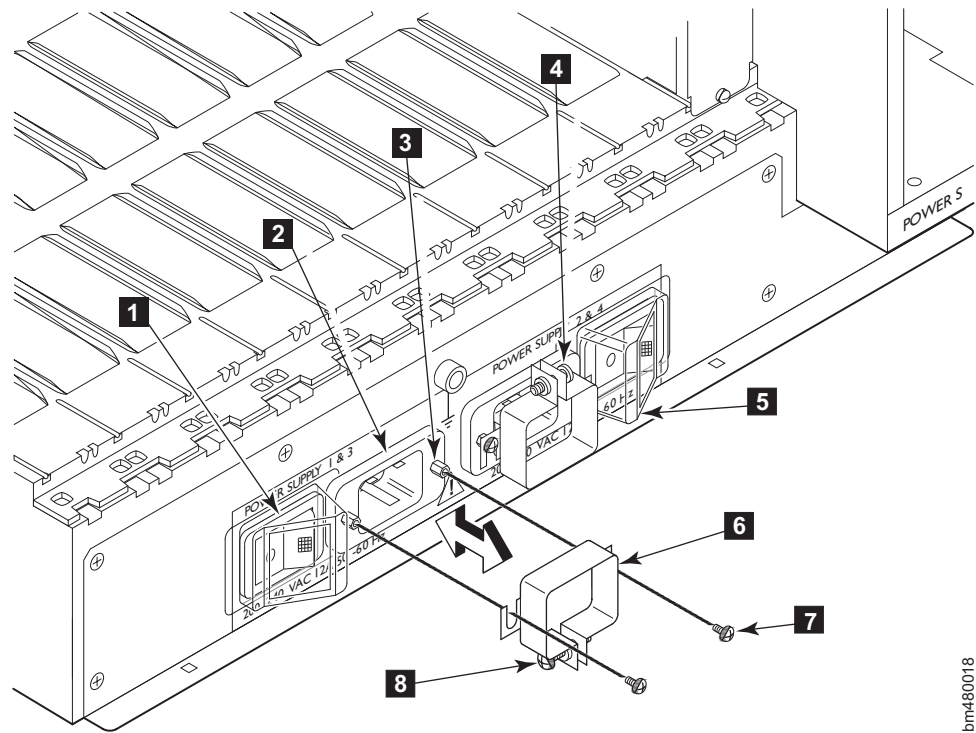

Figure 17. AC panel and power cord retainers
- Verify that the ac switch covers are installed over the ac switches. These clear plastic covers fit over the ac switches with their edges tucked underneath the outlet covers. They prevent the ac switches from being powered on or off accidentally (see **1** and **5** in Figure 17).
- Connect the ac power cord retainers **6** to the chassis: orient a retainer against the ac panel as shown in Figure 17, place the retainer tabs under the two jack screws **3** on either side of the power receptacle, and tighten the screws **7**. Repeat for the other retainer (note that the power cord retainers are oriented in the same direction as the power receptacles).